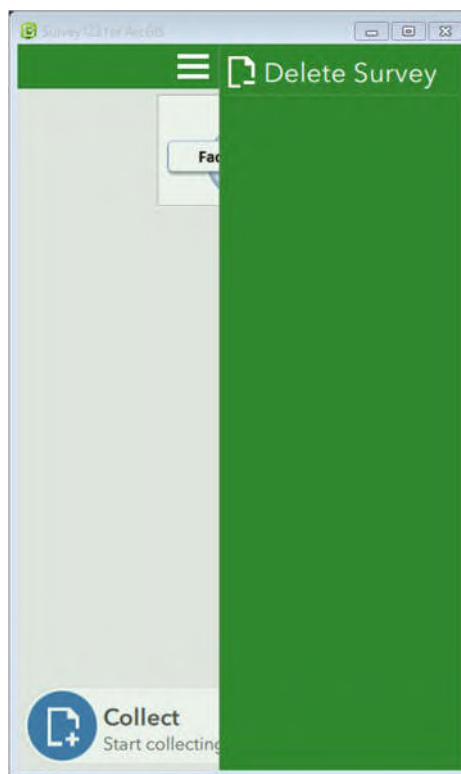

Figure 31 Delete Survey Screen
2. Click the Menu Icon (Figure 9) and select "Delete Survey" (Figure 31).